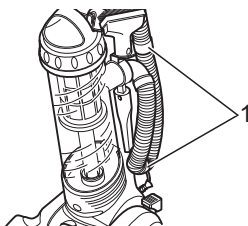

Fig. 8
4. Pull the flexible suction hose out of the suction hose mount (Fig. 8/1).
4. Secure the flexible suction hose to the suction hose mounts (Fig. 8/1).